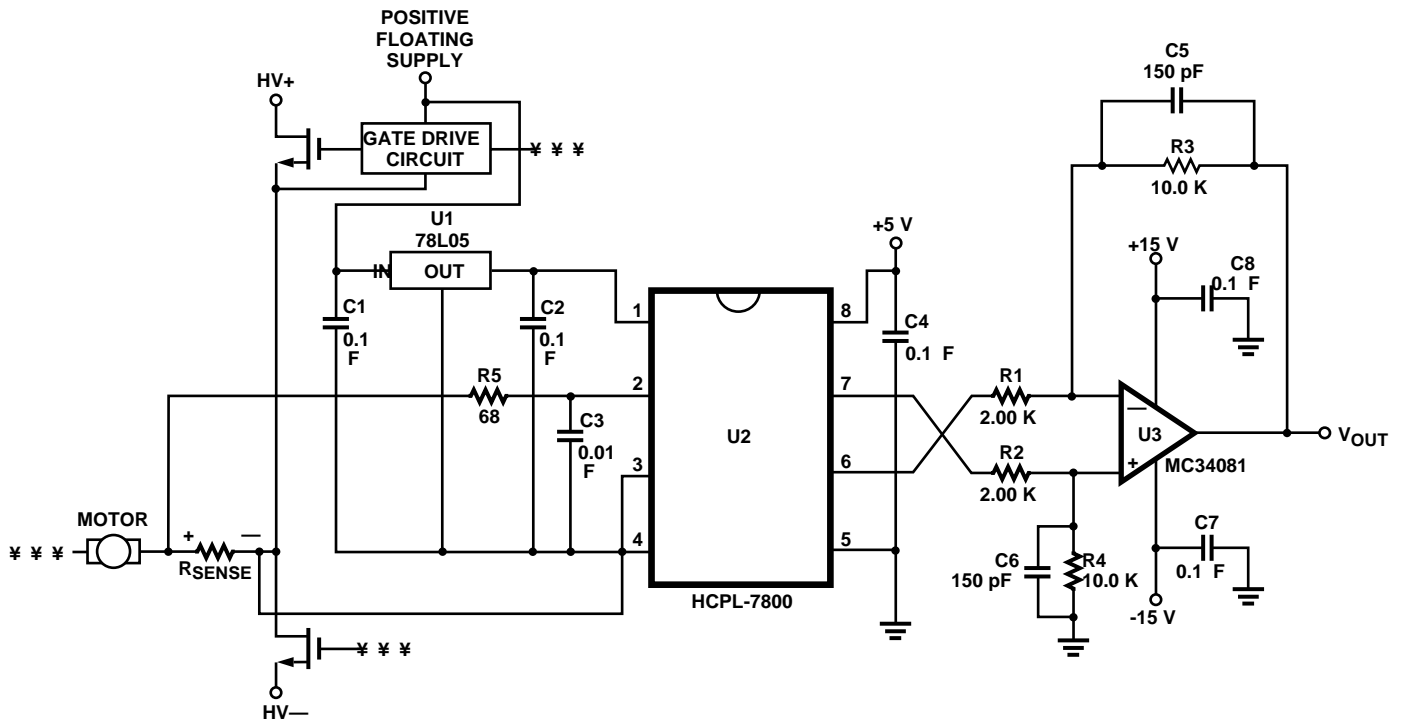

Figure 18: Recommended Application Circuit.
As shown in Figure 18, 0.1 μF bypass capacitors (C1, C2) should be located as close as possible to the pins of the HCPL-7800(A). The bypass capacitors are required because of the high-speed digital nature of the signals inside the HCPL-7800(A). A
The recommended method for connecting the HCPL-7800(A) to the current sensing resistor is shown in Figure 18. VIN+ (pin 2 of the HCPL-7800(A)) is connected to the positive terminal of the sense resistor, while VIN- (pin 3) is shorted to GND1 (pin 4), with the power-supply return path functioning as the sense line to the negative terminal of the current sense resistor. This allows a single pair of wires or PC board traces to connect the HCPL-7800(A) circuit to the sense resistor. By referencing the input circuit to the negative side of the sense resistor, any load current induced noise transients on the resistor are seen as a common-mode signal and will not interfere with the current-sense signal. This is important because the large load currents flowing through the motor drive, along with the parasitic inductances inherent in the wiring of the circuit, can generate both noise spikes and offsets that are relatively large compared to the small voltages that are being measured across the current sensing resistor.